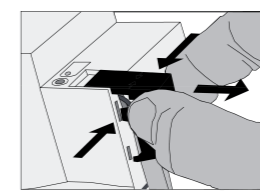

Figure 6: Removing the cover
- o Press the cover to the side and pull it off (figure 6).